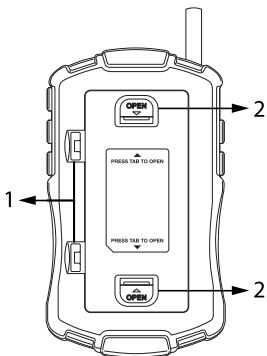

Figure 2 Opening tabs for battery compartment (1) and cable storage (2).
The BR90 is powered by four 1.5V AA batteries. To install the batteries, open the rear battery compartment using the latches as shown Figure 2 (item 1). Observe correct polarity when installing batteries. Ensure that the battery compartment is completely closed before use. The battery status indicator appears on the upper left corner of the video monitor for convenience.
The camera cable is stored in the BR90 housing. To access the cable, press the two compartment tabs, as shown in Figure 2 (item 2). Release a length of cable as required and snap the housing shut. To store the cable after use: open the housing, coil the cable inside the housing, and snap the housing closed.